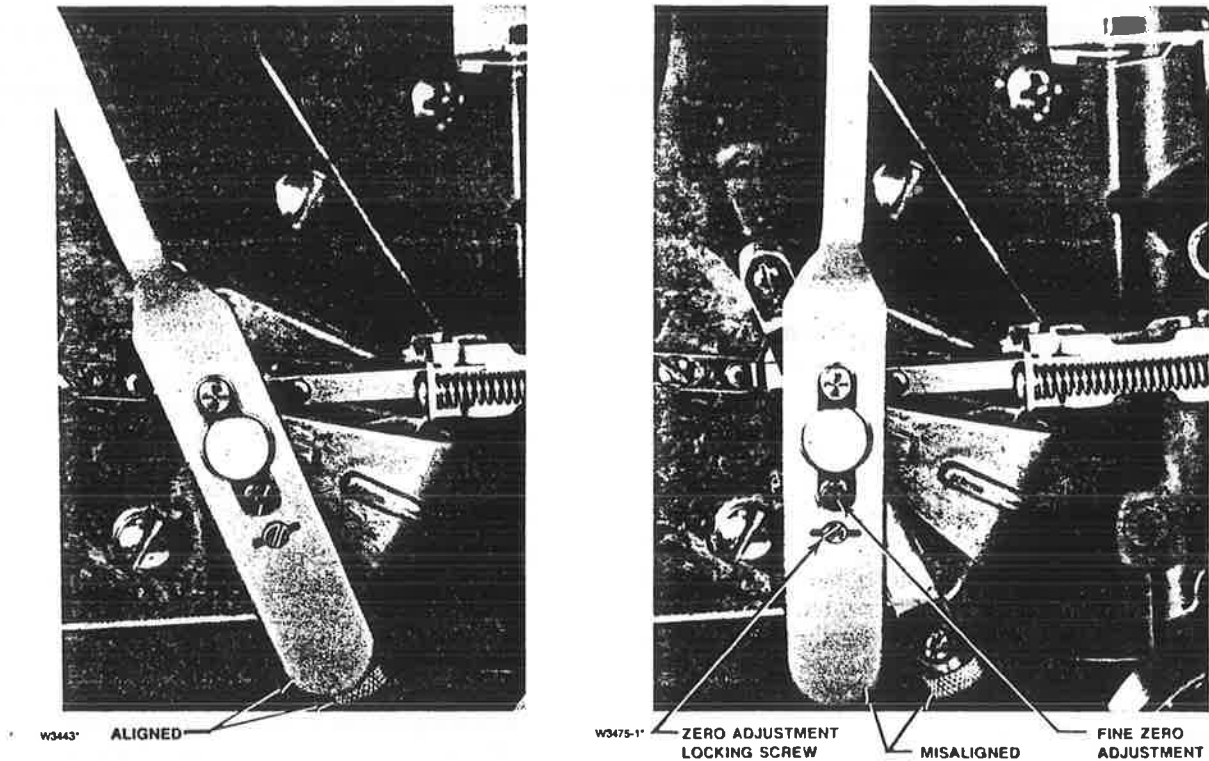

Figure 6-13. Process Pointer Alignment
3. Remove the two screws (key 6) and lift off the proportional band indicator cover (key 36).
5. The process pointer should be lined up with the pointer subassembly (as shown in figure 6-13). If not, release the zero lock and adjust the fine zero adjustment to align the process pointer and pointer subassembly.
4. The process pointer should be lined up with the pointer subassembly as shown in figure 6-13. If the pointer is not properly aligned, loosen the zero adjustment locking screw and adjust the process pointer zero adjustment to align the pointer with the process pointer subassembly.
8. The process pointer should be aligned with the pointer subassembly as shown in figure 6-13. If not, loosen the zero locking screw and adjust the fine zero adjustment to align the process pointer and pointer subassembly.